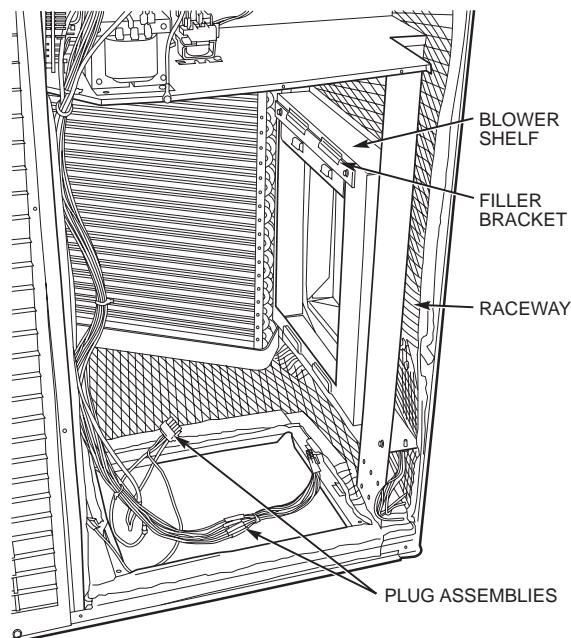

Fig. 22 — Filler Bracket and Blower Shelf
6. Remove screws (Fig. 18) securing indoor blower housing to blower shelf and carefully slide out blower housing. Disconnect the plug assemblies (Fig. 22) from the indoor-fan motor. There is a filler bracket attached to the blower shelf; remove this filler bracket and retain for later use. (See Fig. 22).
12. Remove screws securing the high-voltage raceway to duct panel. See Fig. 22. Temporarily place raceway on top of unit until blower housing is installed.